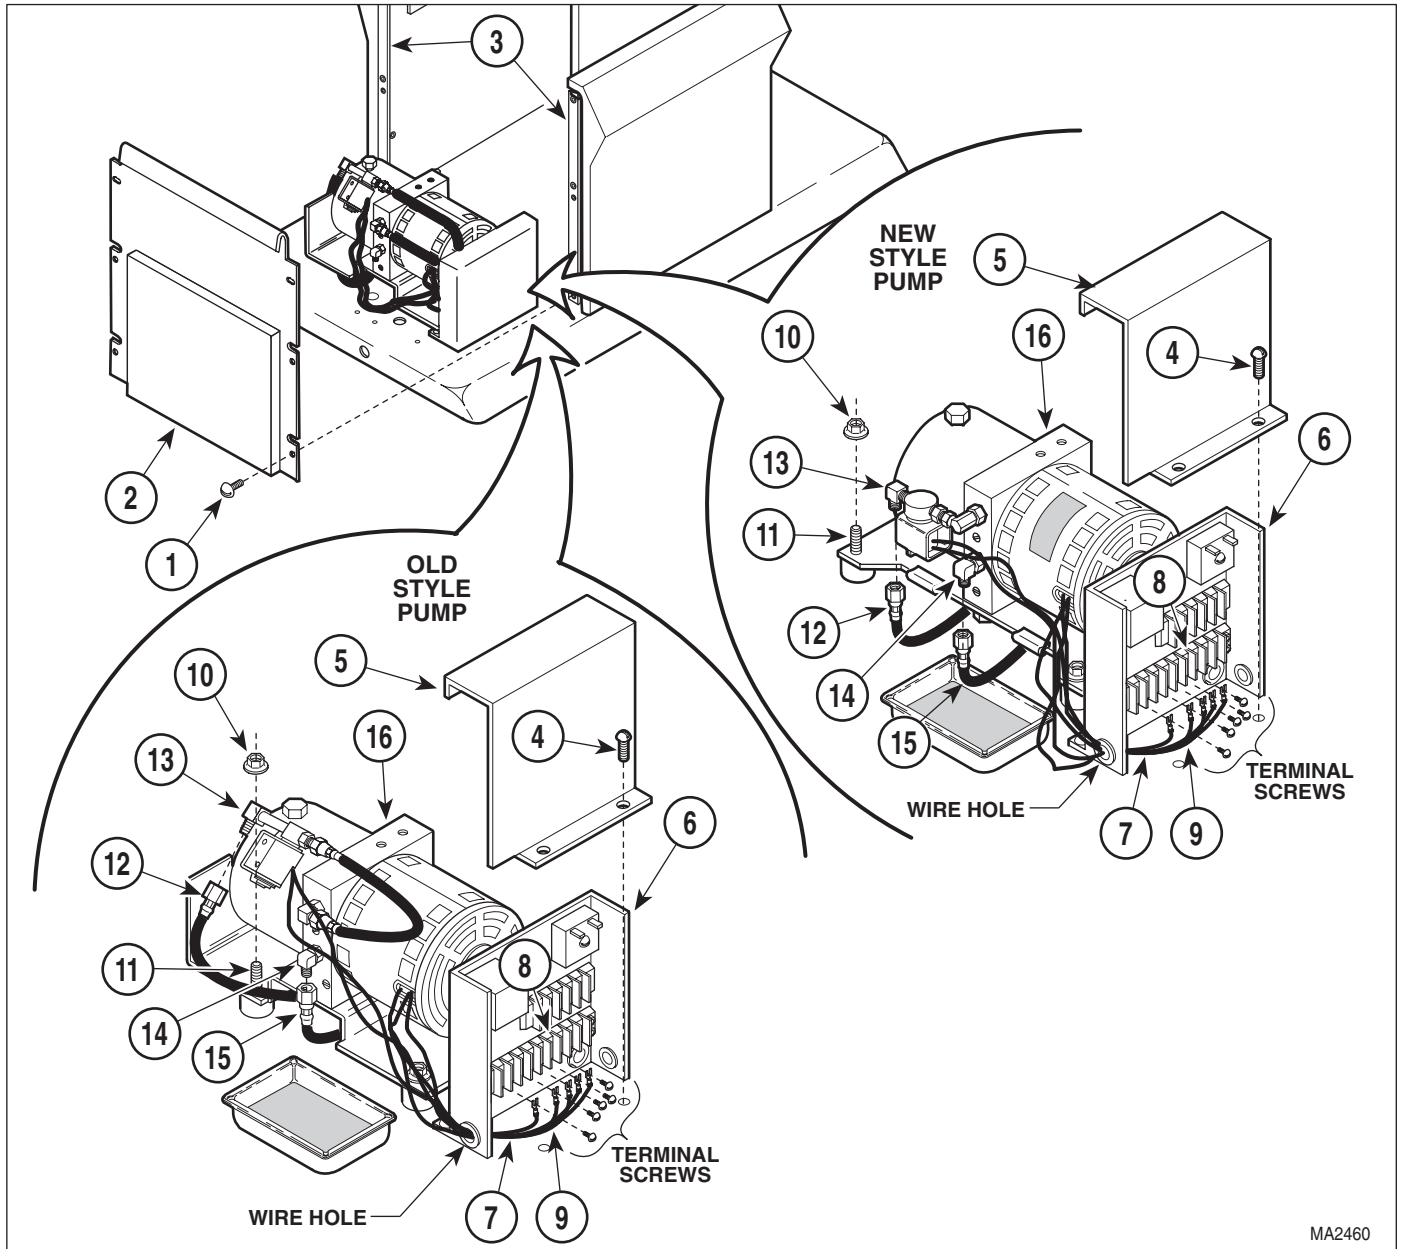

Figure 4-8. Motor Pump Assembly - Complete Removal / Installation
- (1) Unplug table power cord from outlet.
- (2) Remove motor cover (Refer to para 4.2).
- (3) Remove four screws (1, Figure 4-8) and back out shroud (2) from left and right hand outer shrouds (3).
- (4) Remove two screws (4) and control cover (5) from control panel (6).
- (5) Loosen three terminal screws; then tag and disconnect three motor pump wires (7) from terminal block (8).
- (6) Pull motor pump wires (7) out thru wire hole.
- (7) Loosen two terminal screws; then tag and disconnect anti-cavitation solenoid valve wires (9) from terminal block (8).
- (8) Pull anti-cavitation solenoid valve wires (9) out thru wire hole.
- (9) Remove four nuts (10) from four motor mounts (11).
- (10) Disconnect hose assembly (12) from male elbow (13).
- (11) Place a drain pan under elbow (14).
- (12) Disconnect hose assembly (15) from elbow (14). Allow oil to drain into drain pan.
- (13) Remove motor pump assembly (16) from four motor mounts (11).